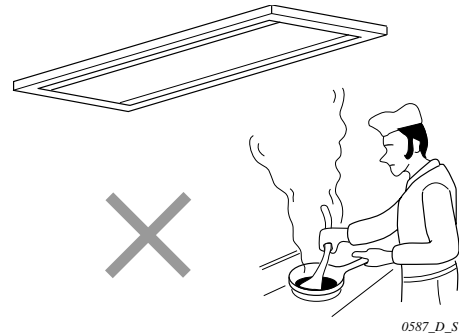

Fig. 2
- allow room for operation and maintenance as well as unrestricted air flow around the unit. Fig. 2.
- install the unit within the maximum elevation difference (H) up or down of outdoor unit and within a total tubing length (L) from outdoor unit stipulated in Table 1.